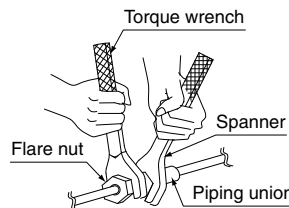

Fig. 4
- When connecting or disconnecting piping to or from the unit, **be sure to use a spanner and a torque wrench.** (Refer to Fig. 4)